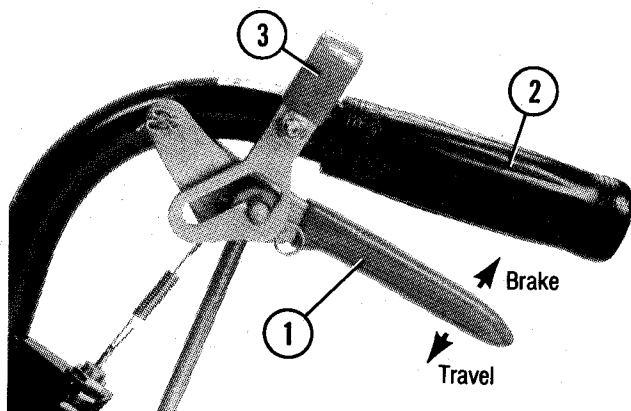

Figure 11 Drive Lever
### Drive Levers (Fig. 11)
To lock drive levers in neutral position, pull back on the thumb latches, then release the levers so they catch as shown in Fig. 11.
**Use the thumb latches to lock the drive levers in "Neutral Lock" position (see Fig. 11), then move throttle control lever to "Stop" position. Units with Kawasaki engine turn "shut-off" switch to "off" position.**
- B. Use thumb latches to lock the drive levers into "Neutral Lock" position (see Fig. 11).